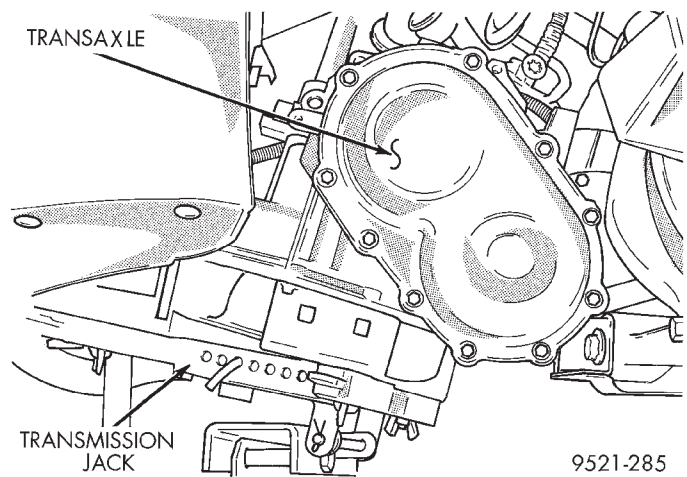

Fig. 56 Transmission Jack
- (29) Position transmission jack under transaxle and support with safety chain (Fig. 56).
- (30) Remove upper and lower transaxle bell housing bolts.
- (31) Move K-frame rearward and carefully lower the transaxle assembly from vehicle.